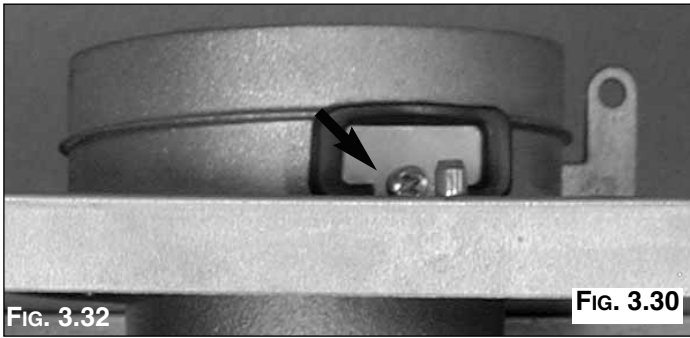

Fig. 3.30
NOTE: ALL SETTINGS ARE TO BE MADE WITH A CO₂ METER WITH THE PROBE FITTED TO THE FLUE GAS ANALYSIS POINT (Fig. 3.30).
1. Connect the combustion analyser to the analysis point (Fig. 3.30) after removing the screw and cover.